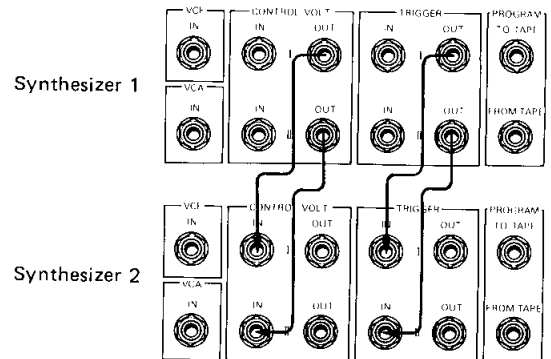

Fig. 19
- Fig. 19 shows typical examples of connections in which two CS-20Ms and two CS-40Ms are connected. By applying the CONTROL VOLTs and TRIGGERs of Synthesizer 1 to Synthesizer 2, it is possible to control the VCO1, VCO2, VCF and VCA of each unit with the keyboard of Synthesizer 1.